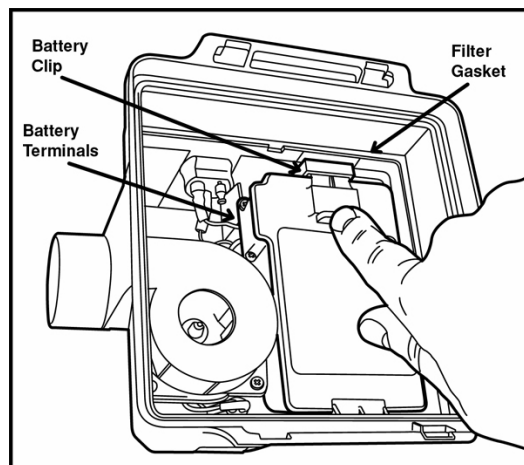

Fig. 1
2. Insert the battery pack into its compartment and press it down to seat in place. This action will engage the battery terminals in the socket on the side of the battery pack. (Fig. 1)
4. Confirm that the filter gasket is properly installed in the groove on the housing. (Fig. 1)
3. Remove and discard the high efficiency filter and filter gasket (located in the supporting groove inside the PAPR – See Fig.1) in accordance with local, state, and federal guidelines. Gasket can be removed using a tweezers (Fig. 5). Gaskets must be replaced when a new filter is installed.